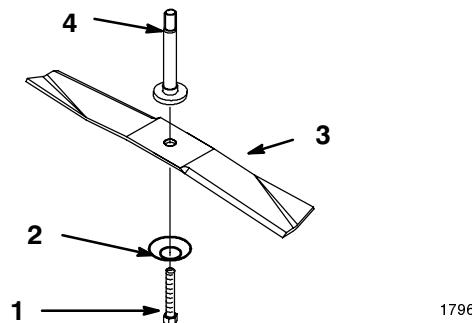

Figure 35
3. Remove the bolt, Belleville washer and blade (Fig. 35). A block of wood may be wedged between the blade and the mower to lock the blade when you are removing the bolt.